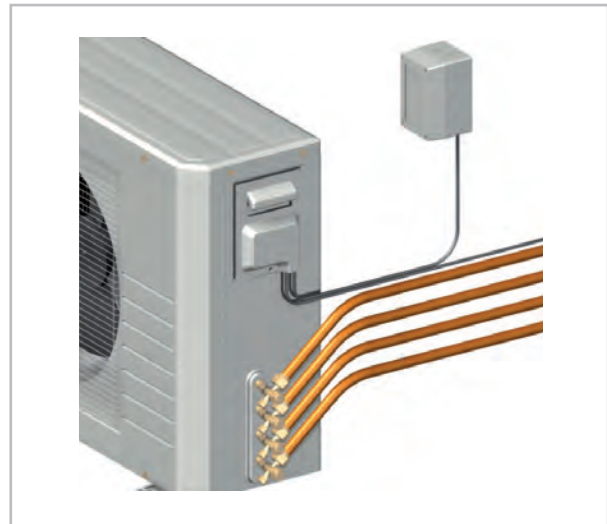

Fig. 15: Outdoor unit connection
- Customers should install a terminal box in the vicinity of the outdoor unit. We recommend using a main/repair switch (Fig. 15).